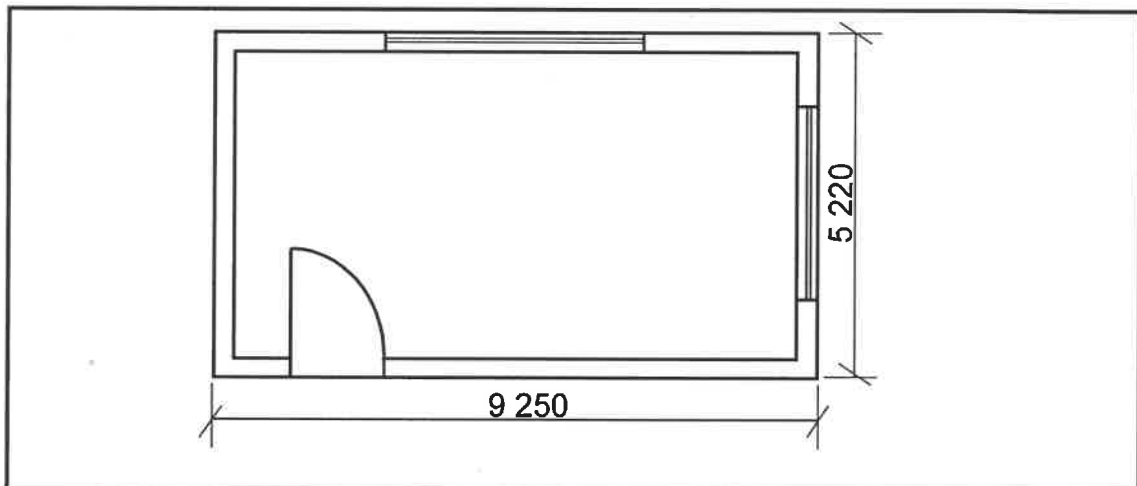

FIGURE 6.5
- 6.5 FIGURE 6.5 below shows the floor plan of a small classroom.